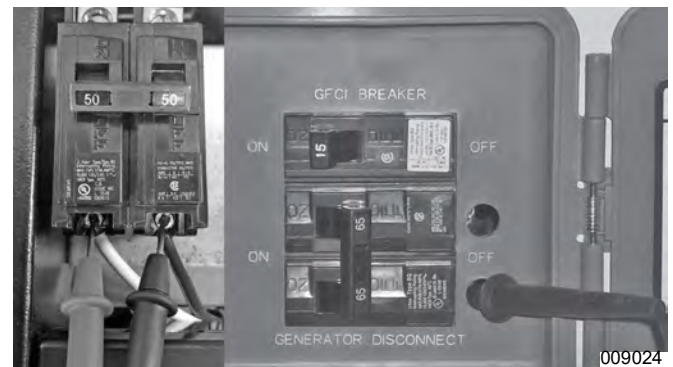

Figure 2-6. MLCB Test Points 2017 and Newer (Left) Pre 2017 (Right)
2. See Figure 2-6. With the engine shut down, connect the meter test leads across the load terminals of the generator MLCB. This will measure line-to-line voltage.